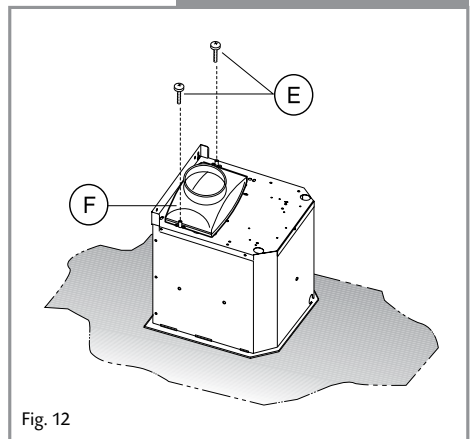

Fig. 12
11. Mount the upper chimney section onto the frame section and secure in position using the 2 screws (A) as in Fig 12.